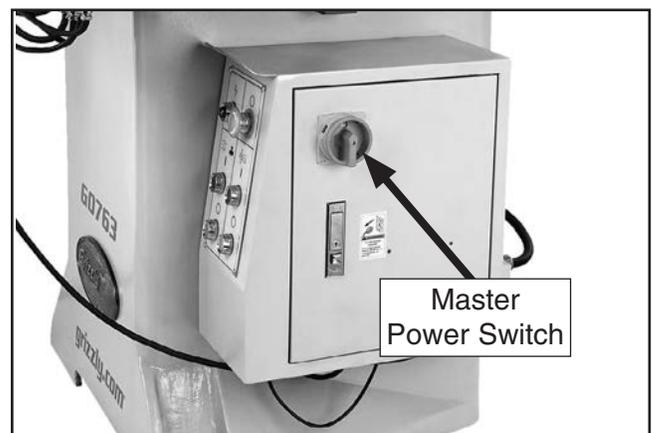

Figure 26. Location of master power switch.
1. Turn master power switch **OFF** (see **Figure 26**), then press latch to open electrical cabinet door.